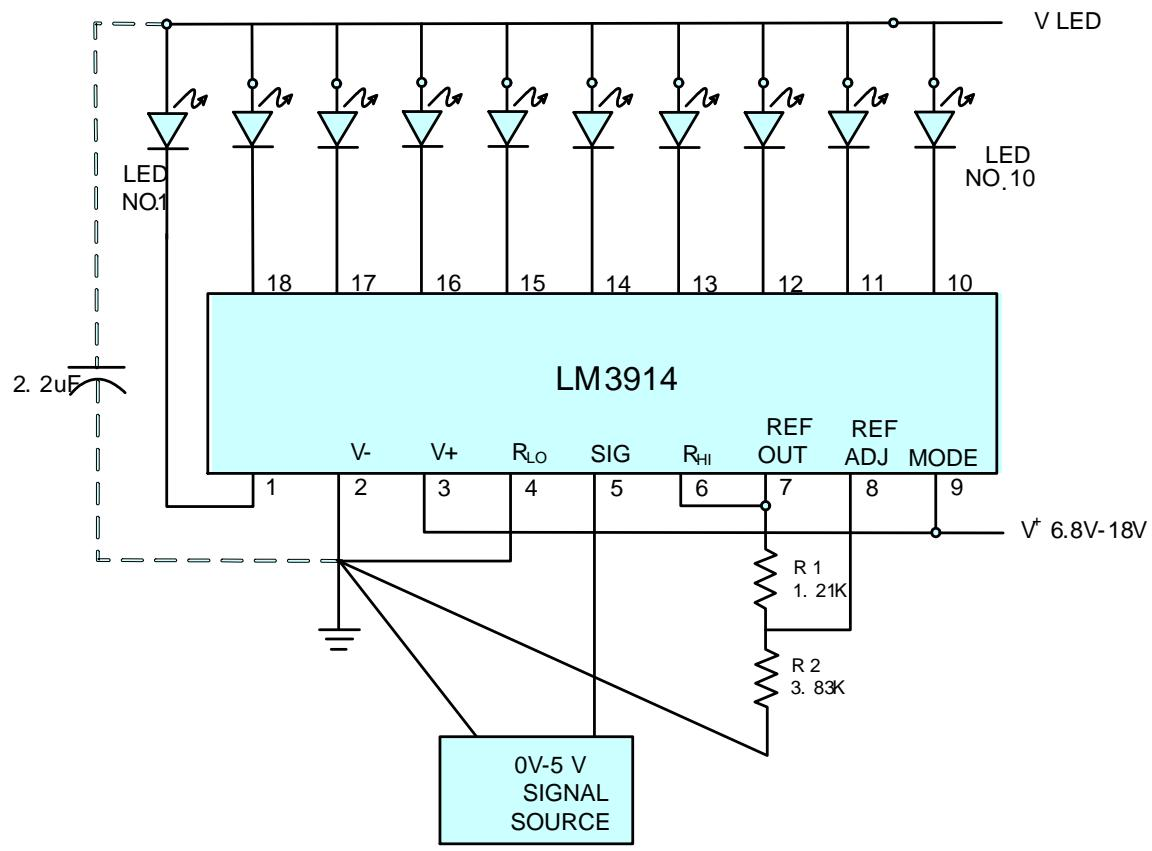

Figure 69
- Using the monolithic IC LM 3914, construct the circuit on a breadboard. As shown in Figure 69.